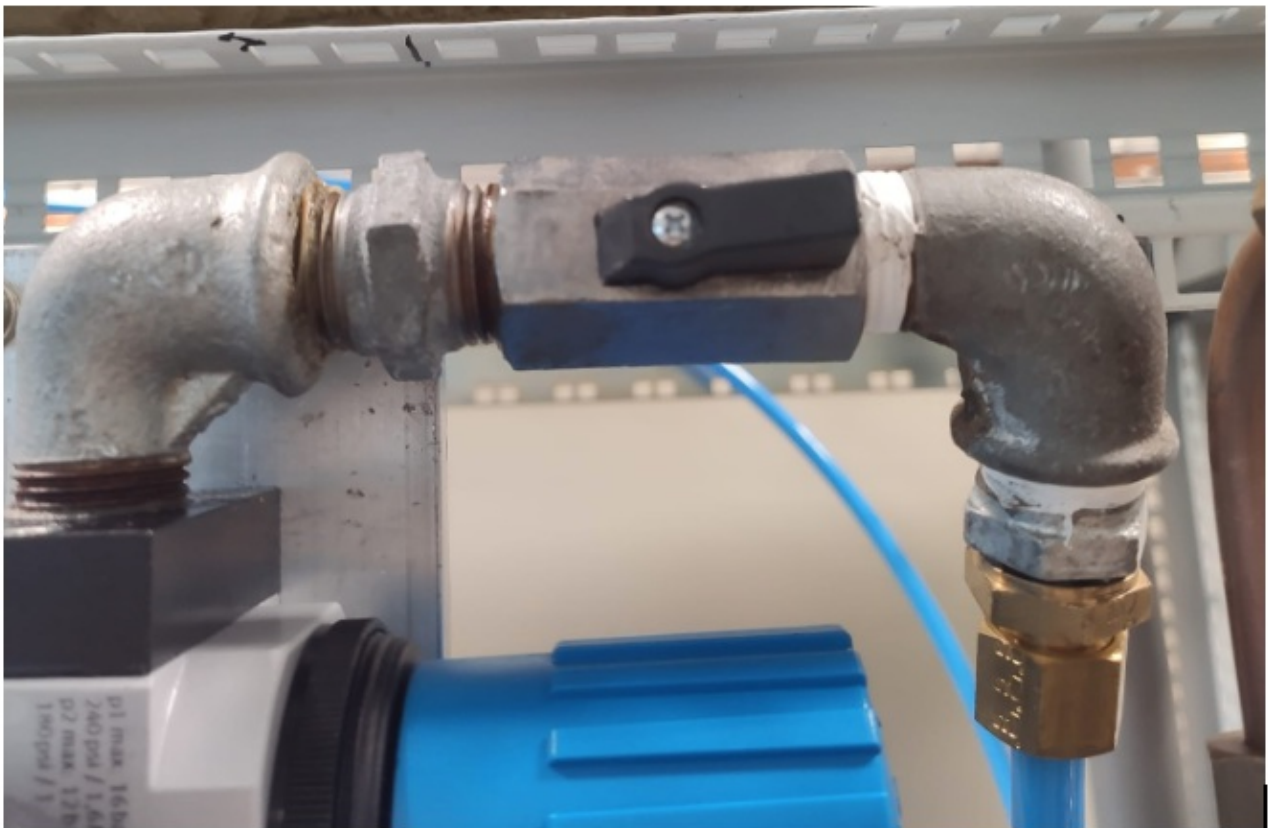

Figure 10
1. Put the black valve (Air Valve) to the horizontal position (rotate anti-clockwise) as shown in Figure 10.